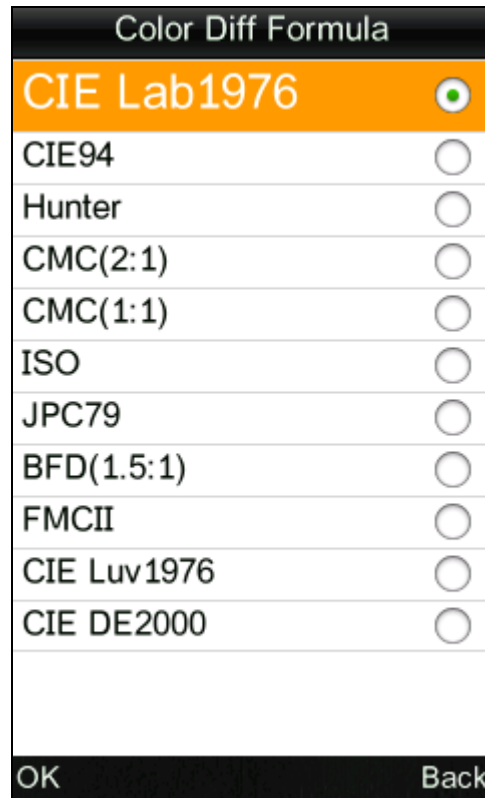

Figure 40 Color Difference Formula
f) Select “Color Diff Formula” in main menu, as shown in Figure 40. Customer can choose the required color difference formula.